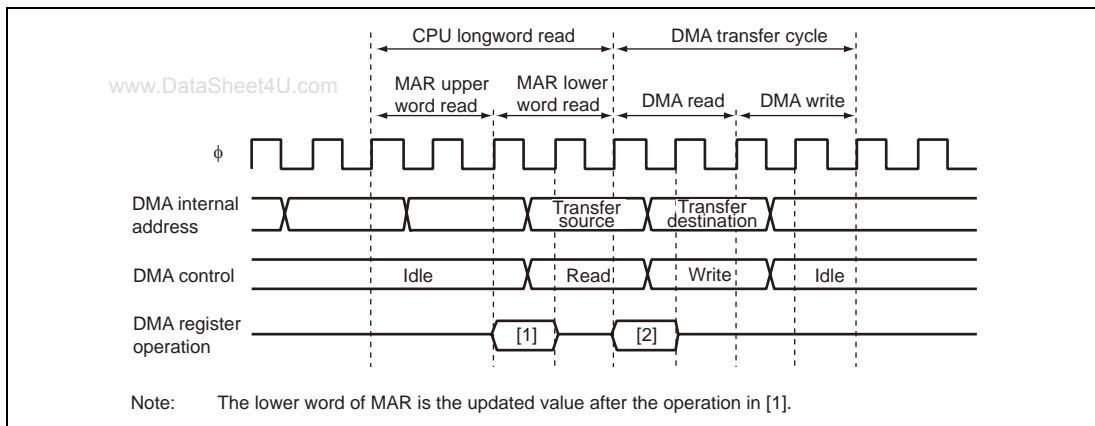

Figure 7.26 Contention between DMAC Register Update and CPU Read
2. If a DMAC transfer cycle occurs immediately after a DMAC register read cycle, the DMAC register is read as shown in figure 7.26.